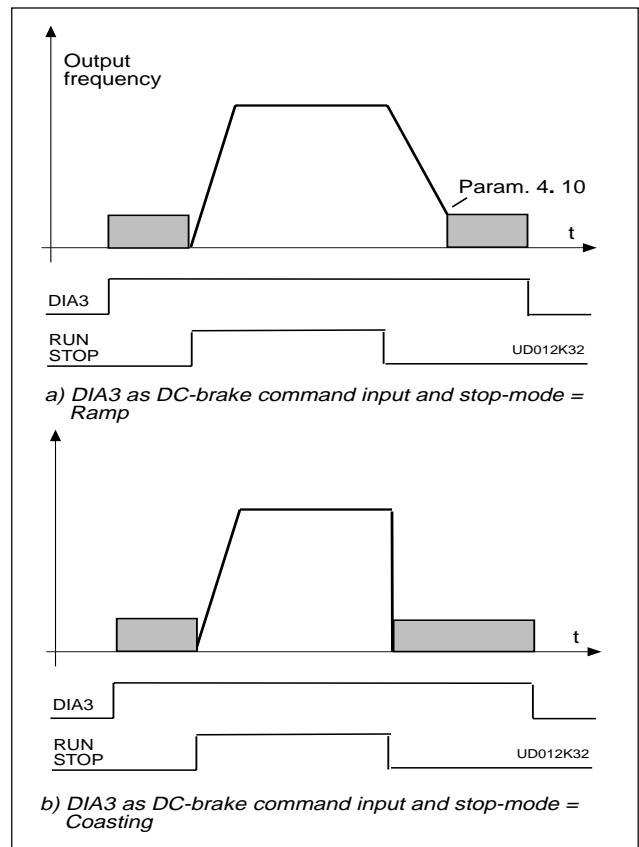

Figure 4.5-1 DIA3 as DC-brake command input:
- 9: DC-braking command contact closed = In the stop mode, the DC-braking operates until the contact is opened, see figure 4.5-1. DC-brake current is set with parameter 4. 8.